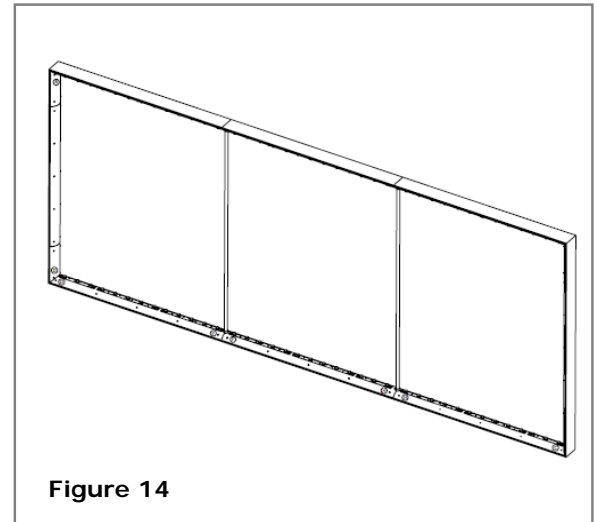

Figure 14
6. Repeat this process for all support poles. Upon completion, the display frame will be fully assembled. **See Figure 14.**